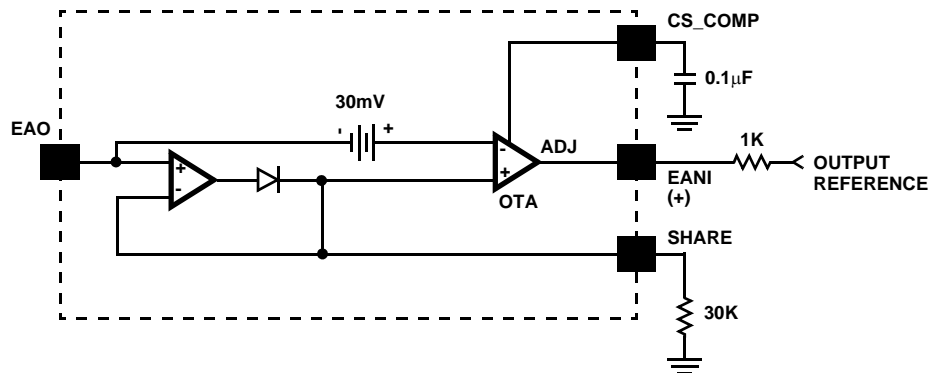

FIGURE 10. SIMPLIFIED CURRENT SHARE CIRCUIT
- The unit with the highest reference is the master. Other units, as slaves, adjust their references via a source resistor to match the master reference sharing the load current. The source resistor is typically 1kΩ connecting the EANI pin and the OUTPUT REFERENCE (external reference or BGREF), as shown in Figure 10. The share bus represents a 30kΩ resistive load per unit, up to 10 units.